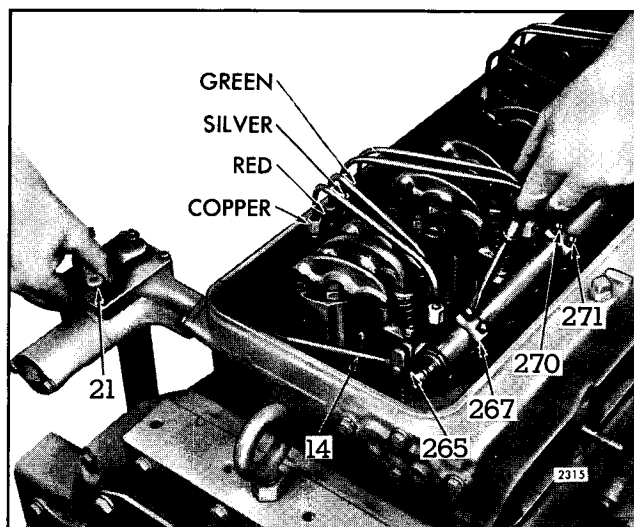

Fig. 2 - Positioning No. 6 Injector Rack Control Lever
1. Refer to Fig. 2 and disconnect any linkage attached to control lever (21).
3. Loosen inner and outer adjusting screws (270) and (271), Fig. 2, on each injector rack control lever (267). Be sure all injector rack control levers are free on the injector control tube.
4. While holding speed control lever (21) in the FULL FUEL position, turn inner adjusting screw (270) down until a slight movement of the injector control tube lever (265) is observed.